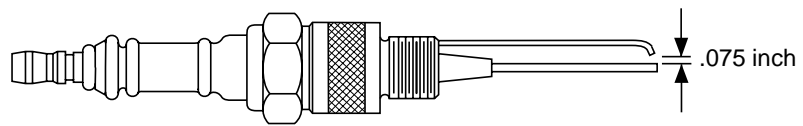

Figure 7 - Spark Plug Gap
5. Clean and regap spark plug electrodes to .075 inch (see Figure 7).